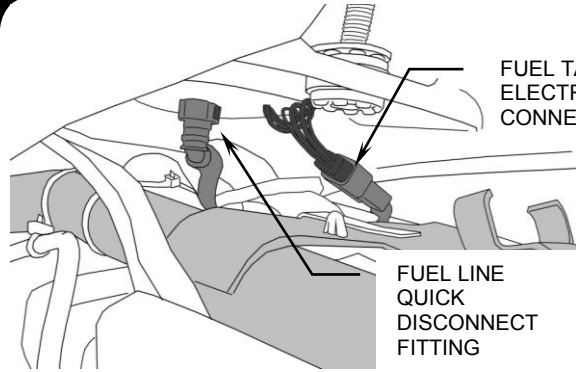

FIGURE 1
4. Prop rear of fuel tank up and disconnect quick release fuel coupling on bottom of tank, by pressing in green tabs on each side of coupler and pulling fuel coupling downward from tank, Figure 1. Be sure to place a shop rag under fuel line and perform installation in a well ventilated area. Disconnect the fuel tank electrical connector along bottom of fuel tank also, see Figure 1. Be sure to disconnect two vacuum lines from rear lower left corner of fuel tank, for tank removal, see Figure 2.